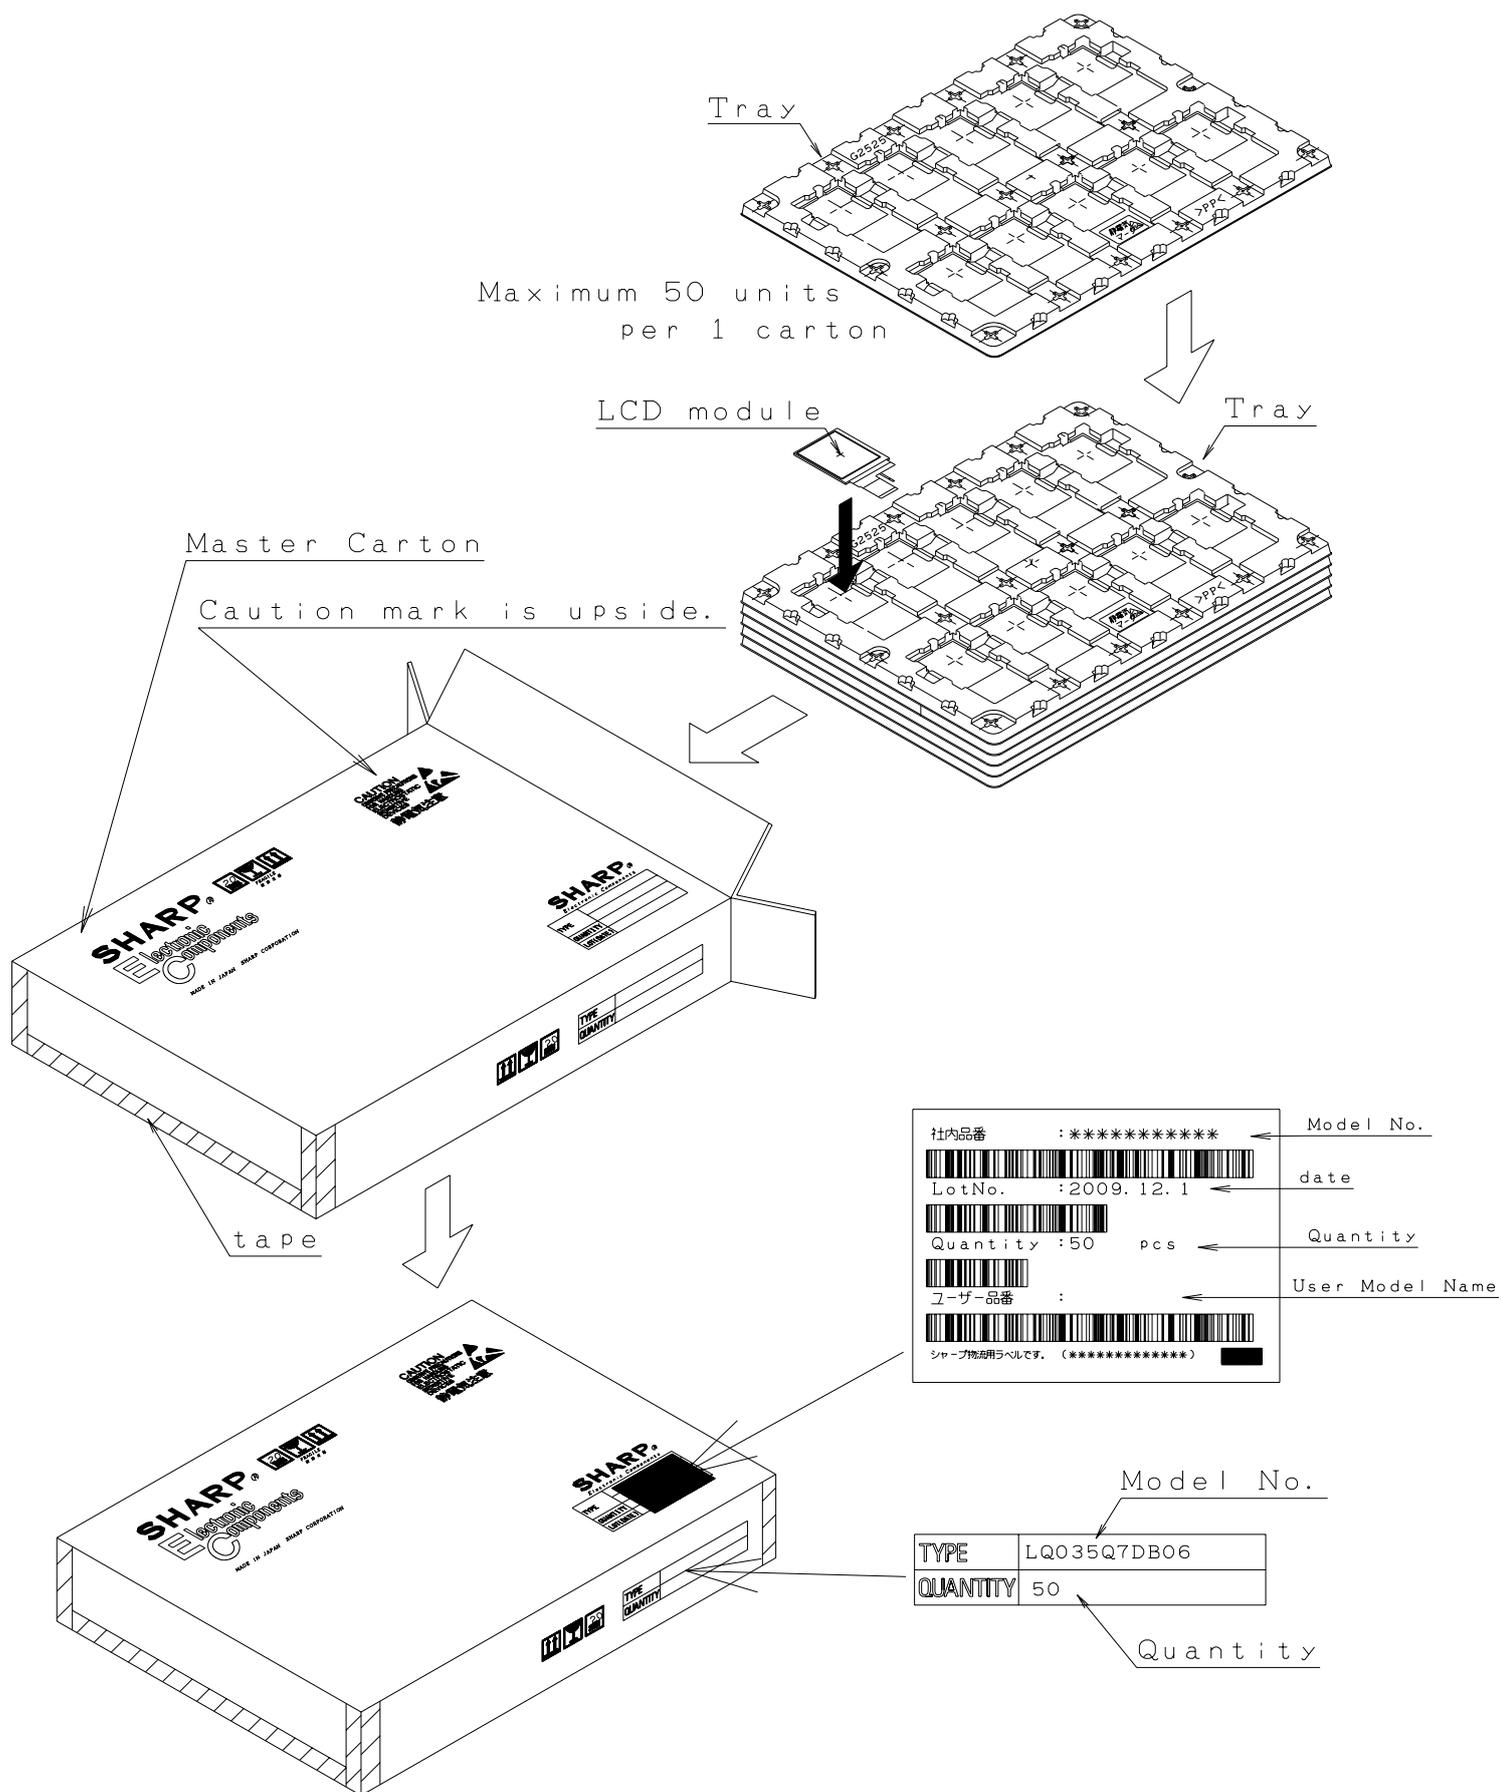

Fig. 3 Package form
16) Forwarding form (see Fig.3 Package Form)